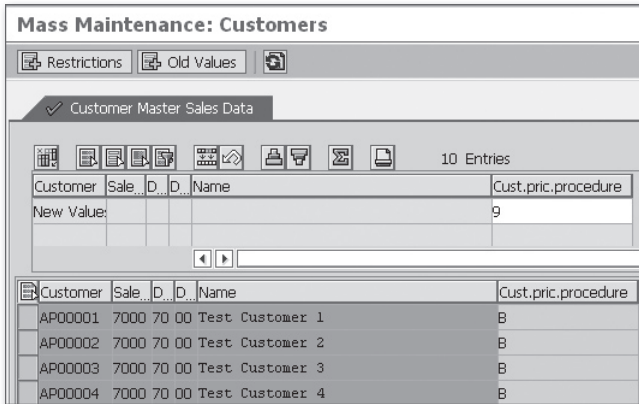

Figure 2.12 Execute the Mass Change
5. Enter the new value (9, in our example) in the Cust.Pric.Procedure field, as shown in Figure 2.12.